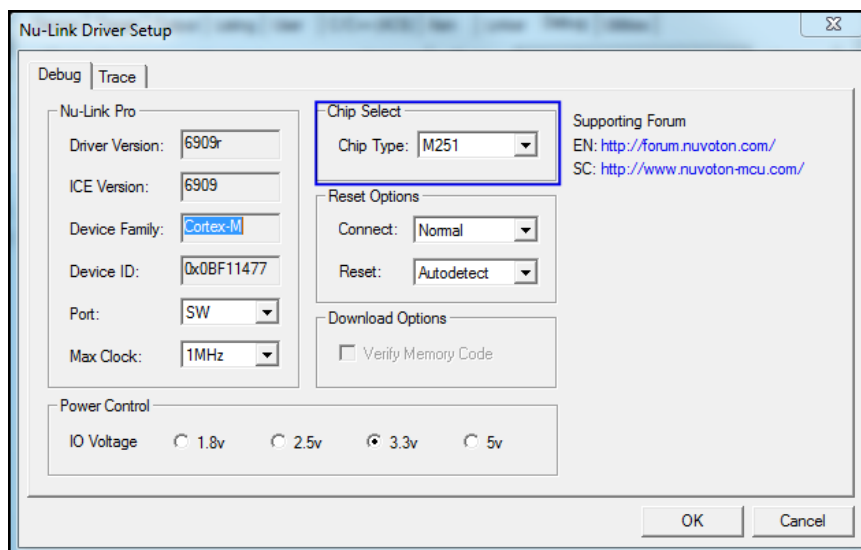

Figure 3-2 Select Chip Type
2. Click “**Option**”->“**Debug**”->“**Settings**” button to enter the debug setting page then select “Chip Type” as M251, as shown in Figure 3-2.